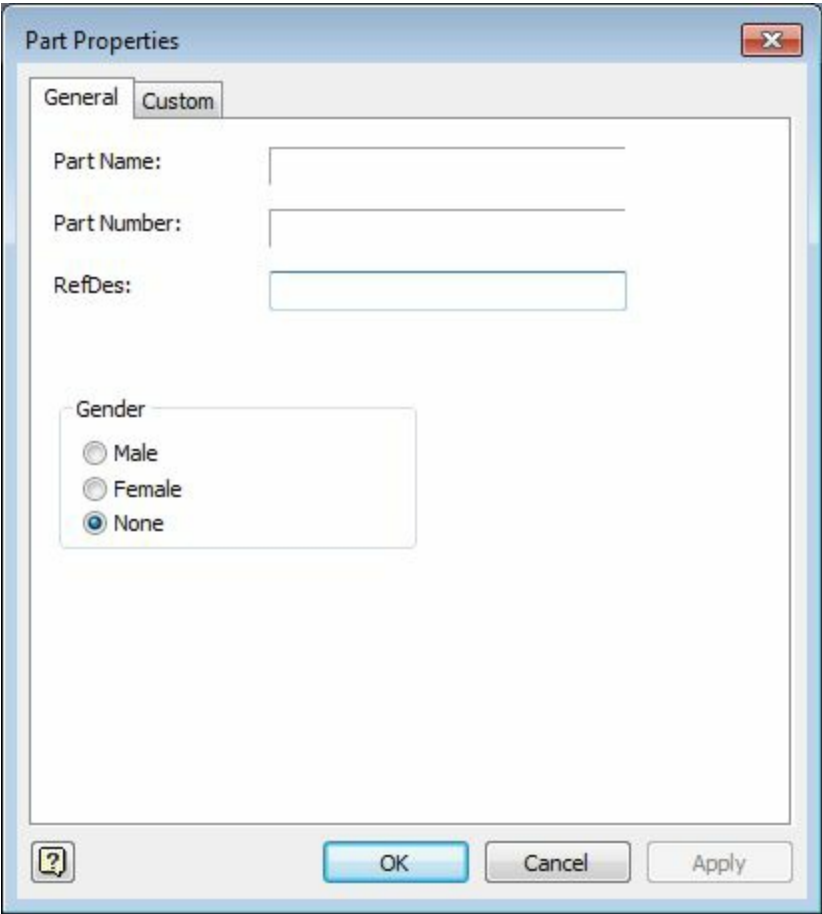

Figure-31. Part Properties dialog box
- Click on the **Harness Properties** tool  from the **Harness** panel in the **Ribbon**. The **Part Properties** dialog box will be displayed as shown in Figure-31.